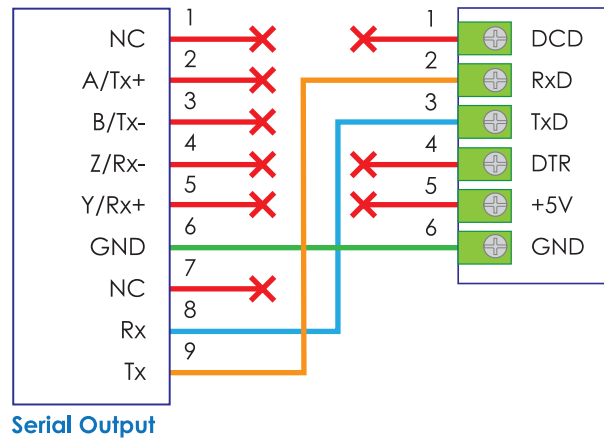

Figure 12. The connection pinout of RS232 Serial Output with Serial converter in RS232 mode
6. The connection wiring pinout of the control box RS232 serial output is illustrated in Figure 12.